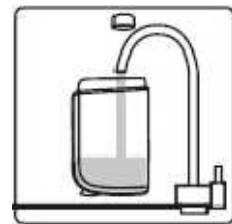

fig.14
2. Unscrew the cap located at the bottom of the tank and fill with water. (fig.14)